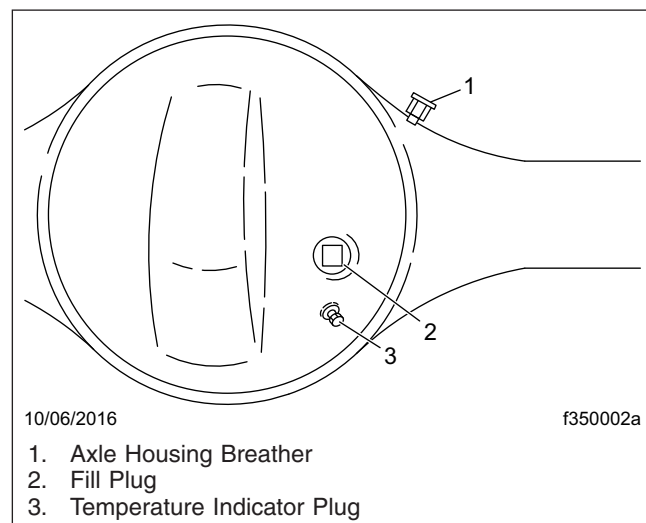

Fig. 8, Dana Spicer Axle Housing Breather
3. Clean the oil fill plug and the area surrounding it. See Fig. 8. Remove the plug from the fill hole (or standpipe, if installed in the oil fill hole).
6. Check the axle housing breather. Make sure that it is unclogged and free from corrosion. See Fig. 8. If the breather is plugged or damaged, clean or replace it as needed.